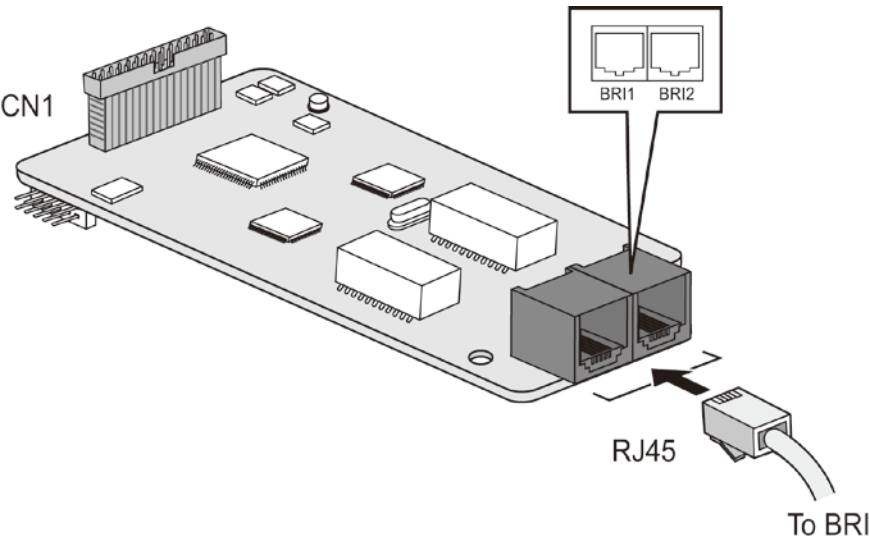

Figure 4.7.7-1 BRIU2
The BRIU2 board has two (2) BRI (2B+D) interface ports. The board, as shown in Figure 4.7.7-1, can be installed only on the CN2 connector of either an MBUI or MBUID.